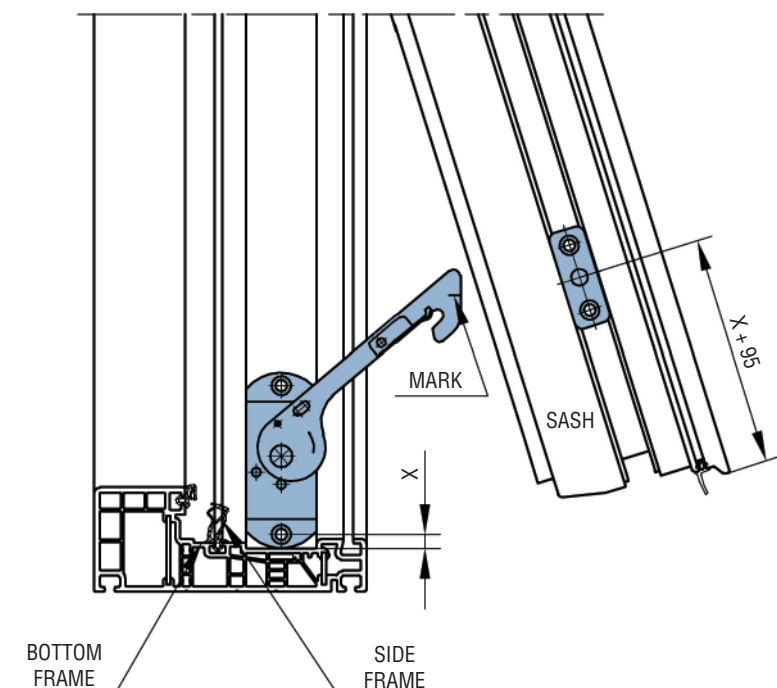

FIG. 1
**IMPORTANT:** THE RECEIVER MUST BE MOUNTED SO THAT THE PIN HITS THE MARK ON THE RESTRICTOR ARM WHEN CLOSING THE WINDOW. SEE FIG. 1